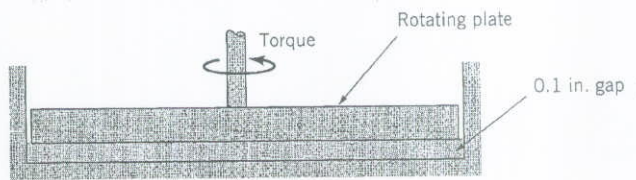

FIGURE P1.71
1.71 A 12-in.-diameter circular plate is placed over a fixed bottom plate with a 0.1-in. gap between the two plates filled with glycerin as shown in Fig. P1.71. Determine the torque required to rotate the circular plate slowly at 2 rpm. Assume that the velocity distribution in the gap is linear and that the shear stress on the edge of the rotating plate is negligible.